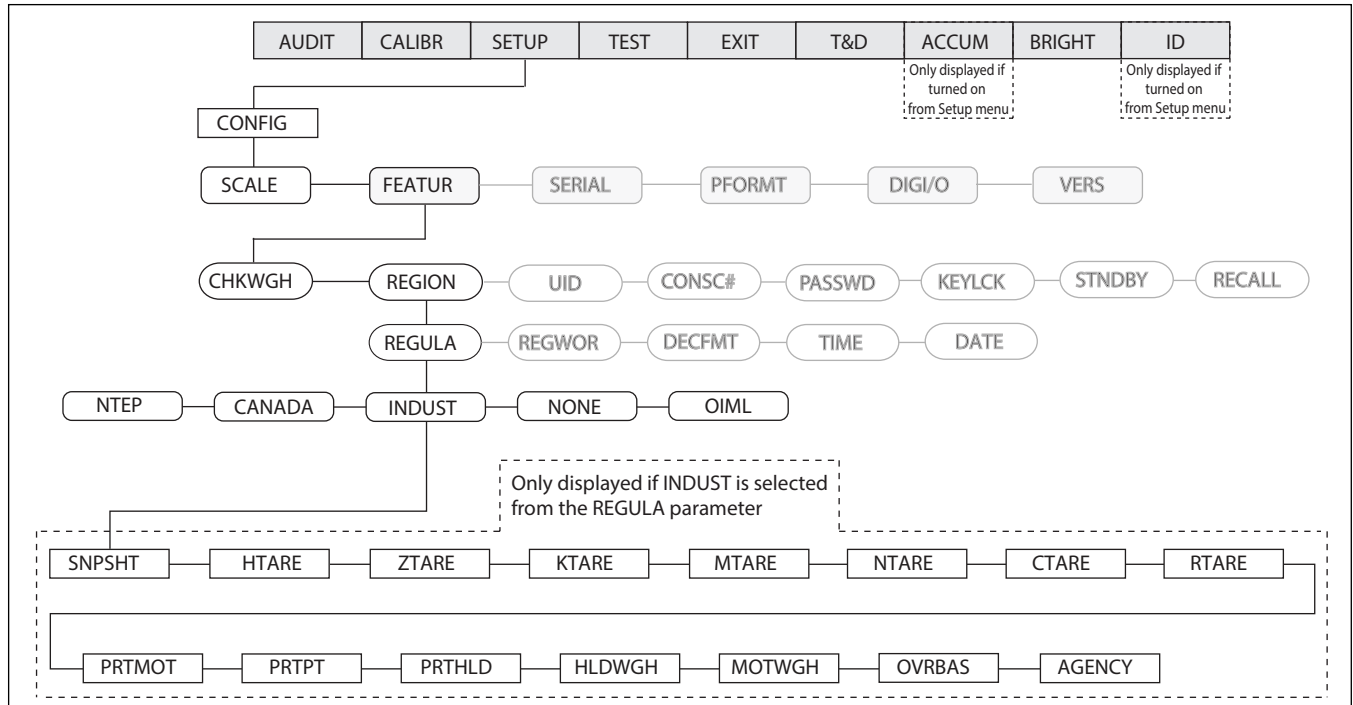

Figure 3-18. Regulation Menu
*INDUST Submenu is in Figure 3-18 on page 38